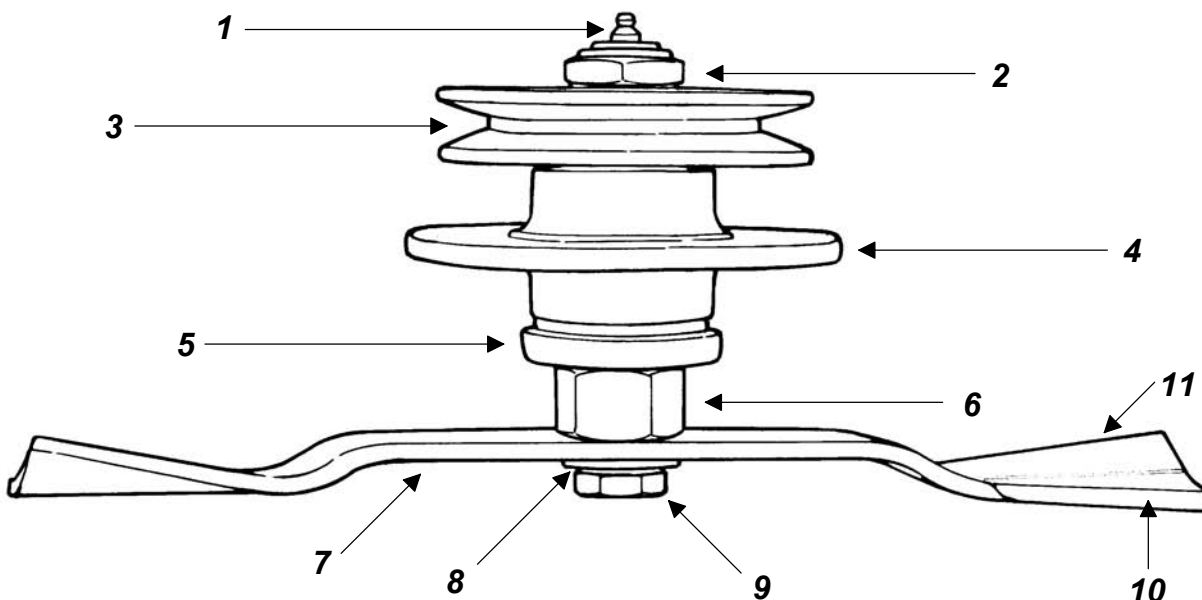

Fig. 11 - Spindle assembly.
1. The blade turns in a **counter clockwise** direction when viewed from the bottom of the deck. The cutting edge must be towards the direction of rotation. The lift wing of the blades is closest to the deck and the cutting edge away from it (**see fig. 11**).
2. Install the cup washer (**see fig. 11**) over the blade bolt and secure the blade in place as described above.